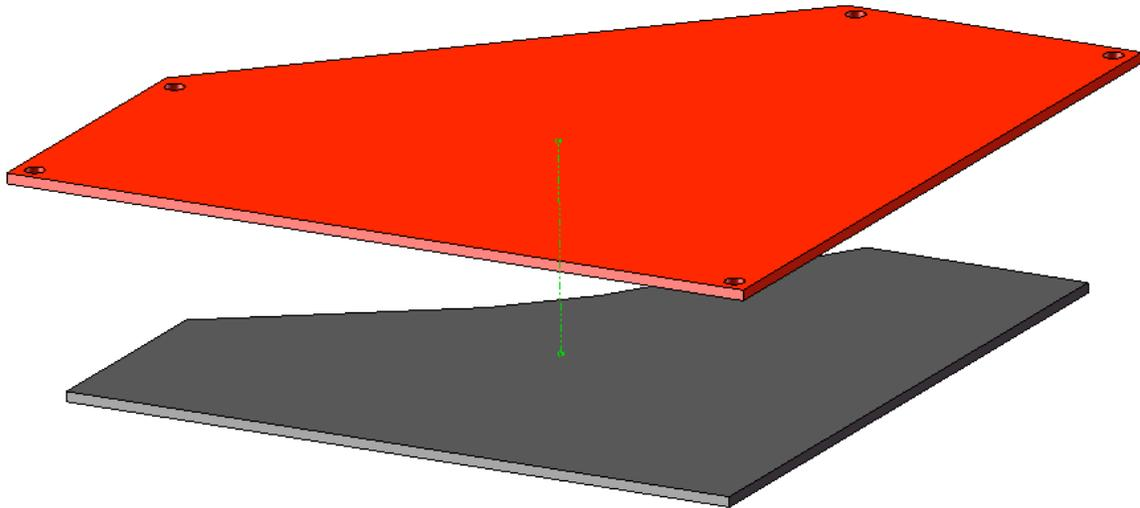

Figure 3-16: Sound absorbent foam place underneath barrier panel.
- 14) Peel the clear plastic backing off the sound foam and attach to the center of the bottom of the fiberglass sound barrier panel; add layers if space is available. See Figure 3-16.